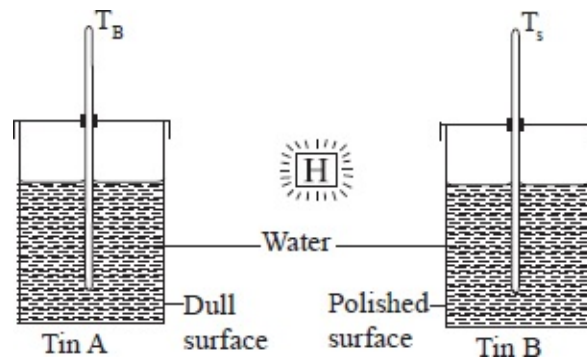

Fig. 7.29: Absorption of radiant heat
- Set the apparatus as shown in figure 7.29.